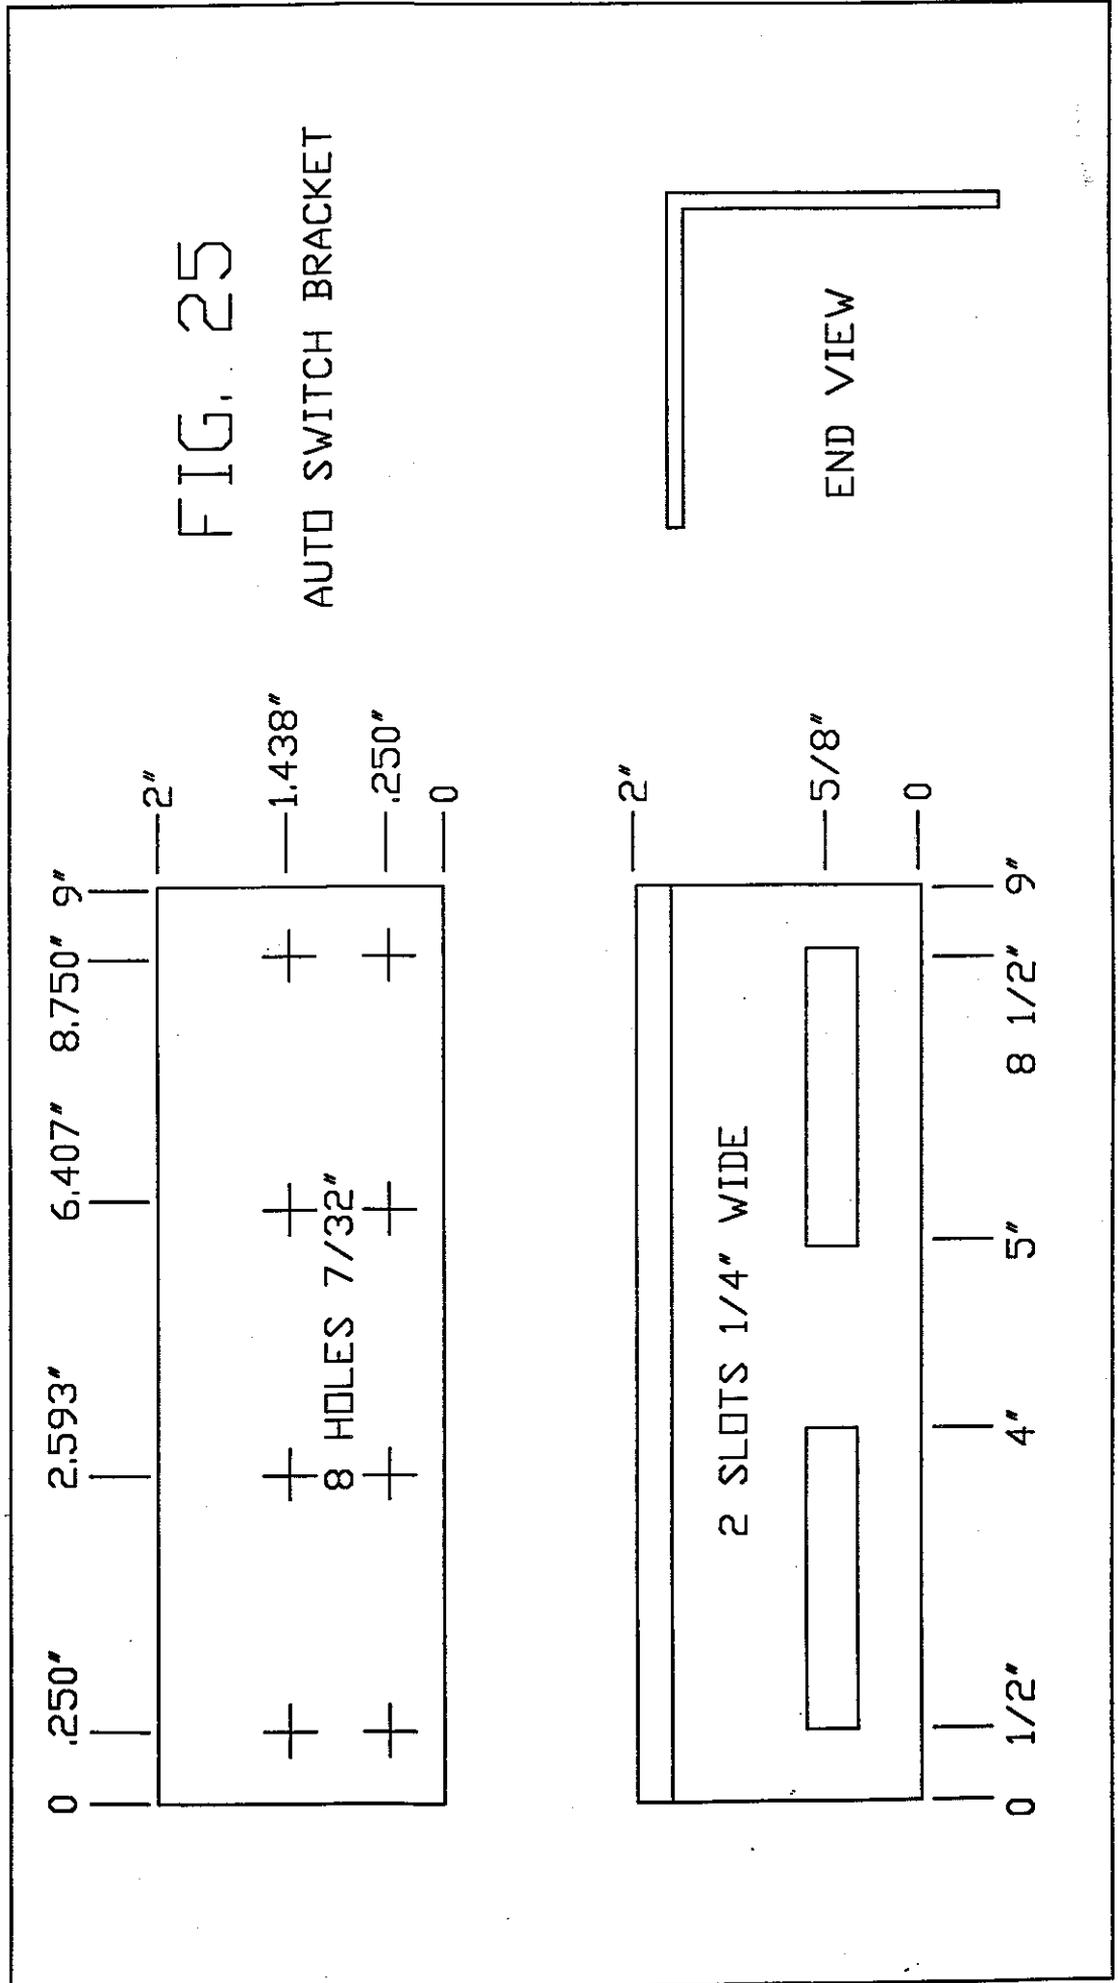

FIG. 25
1. Find recommended mounting hole pattern for auto switch. See Fig. 25.
4. Drill and tap (2) mounting holes $\frac{1}{4}$ -20 x $\frac{3}{4}$ " deep for switch bracket.